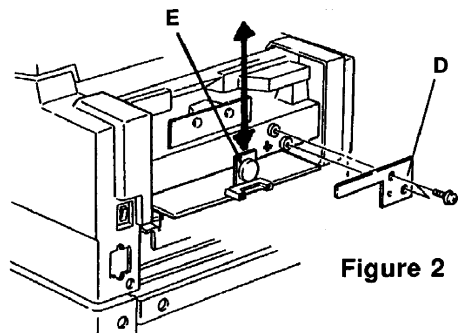

Figure 2
3. Remove the MBU holder [D: 2 screws]. Figure 2. (The MBU holder will not be reused.)
4. Move the battery jumper on the MBU [E] at location TB1 to off. Figure 2.
5. Remove the MBU from the FCU. Figure 2.